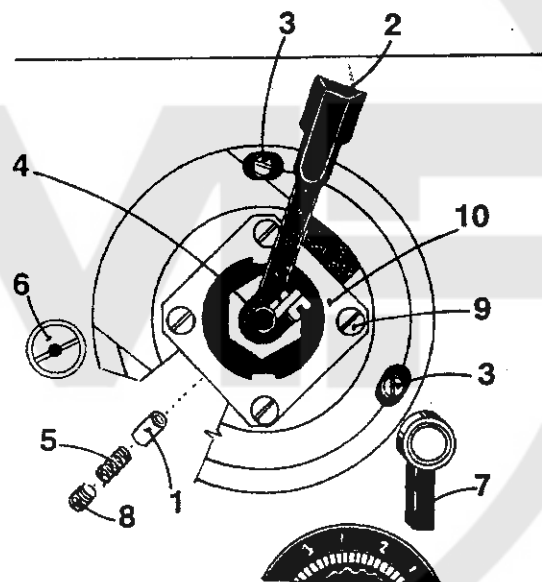

Figure 13
19. To adjust the control force required for stepless adjustment of the zigzag stitch width (Fig. 13, 14)